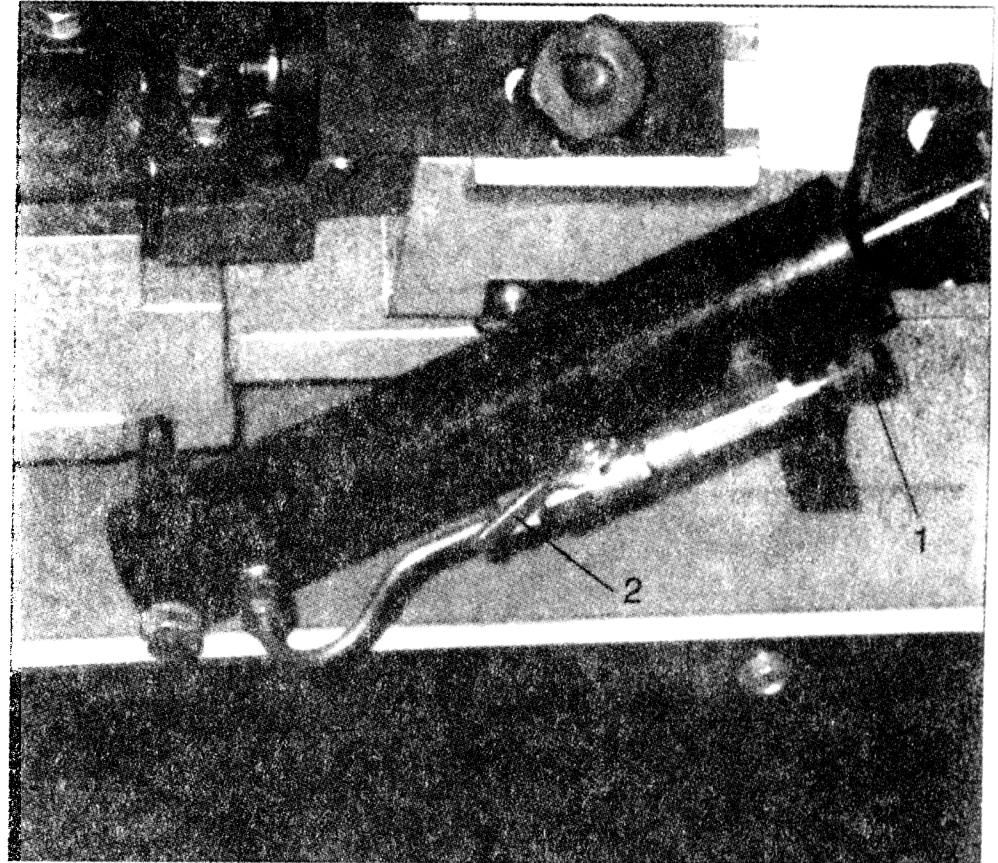

Fig.4
The hydraulic feed selector is used to control the blade feed rate and to lock the arm in the vertical position. To increase the feed rate, turn knob (1, Fig.4) counter-clockwise. To decrease the feed rate, turn knob (1) clockwise. To turn off the flow of hydraulic fluid, turn lever as in figure 4. to turn the hydraulic cylinder on, raise lever (2) to position.